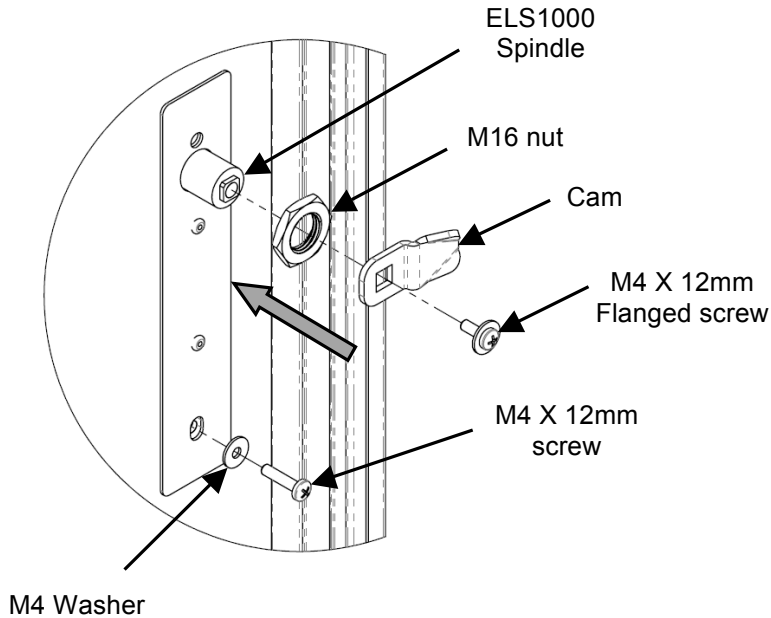

Fig. 4
3. Secure the ELS1000 lock to the rear plate using M4 X 12mm screw and M4 washer (Fig.4).
4. For ELS1000, place M16 Nut over the lock spindle, push the cam onto the cam spindle and fasten it with M4 Flanged screw (Fig.4).